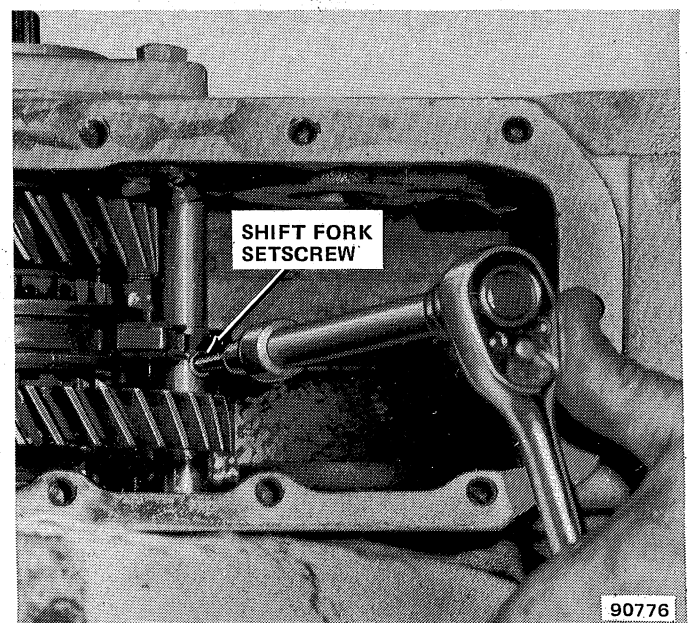

Fig. 2D-78 Shift Fork Setscrew Removal/Installation
- (23) Remove front output shaft and shift rod oil seals from front cap (fig. 2D-76). Discard seals.
- (24) Remove front bearing race from front bearing cap using Tool J-29168.
(25) Remove cover plate bolts and remove plate and end play shims from case (fig. 2D-79). Keep shims together for assembly.
(26) Move front output shaft toward front of case.